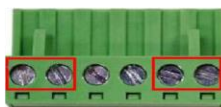

Figure 2.7 - Power Terminal Block
2. Tighten the wire-clamp screws to prevent the wires from loosening, as shown below in *Figure 2.7*.